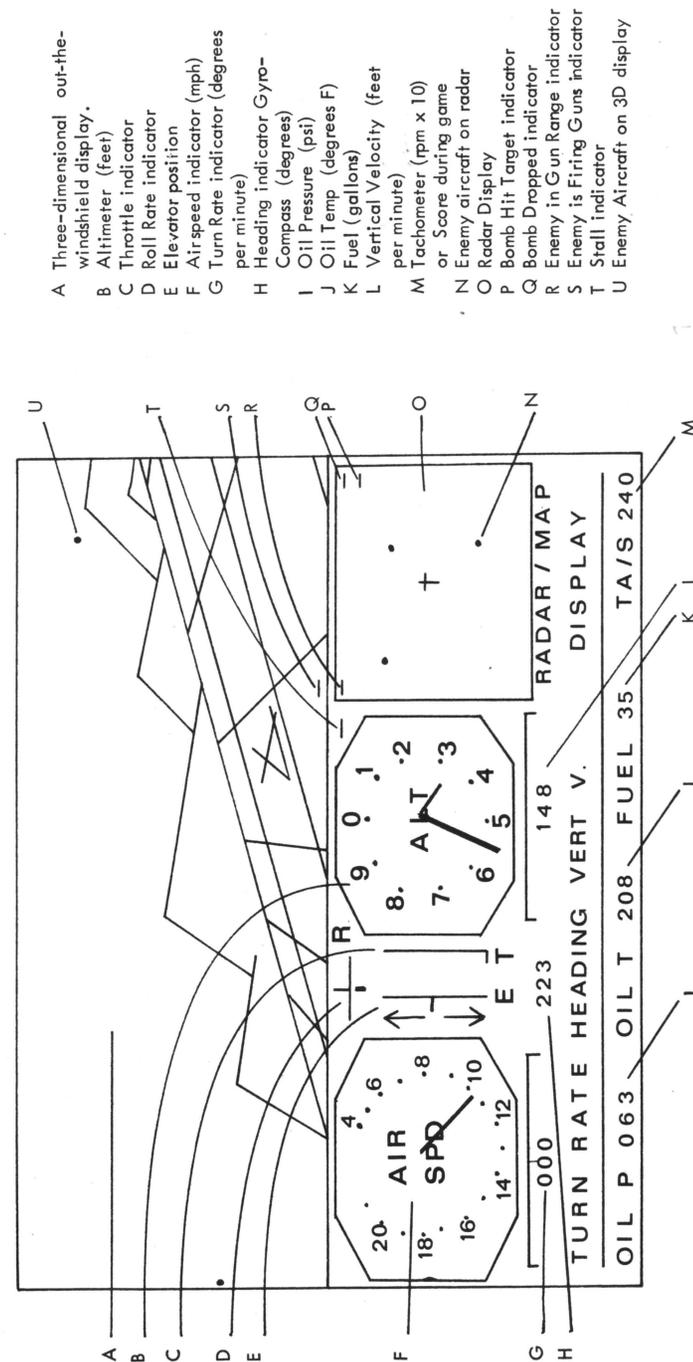

Figure 1. A2-FS1 Cockpit Instrumentation.
Figure 1 defines the FS1 screen instrumentation. The screen is split horizontally into two parts: the upper 3D out-the-window display and the lower instrument panel. The screen instrument functions will now be described in detail.
**Airspeed Indicator** -- This gauge (see figure 1) reflects the trajectory velocity of the aircraft. It is read as a car speedometer is read, but is pinned at its low reading of 40-mph until that speed is passed. Readings under 40 are not of great use because this is an air pressure activated gauge.
instrument panel (see figure 1). It will move from side to side as you turn the rudder right and left. Seven notches of rudder to either side are available. The more notches you use, the faster you will either ground steer or roll into a bank.